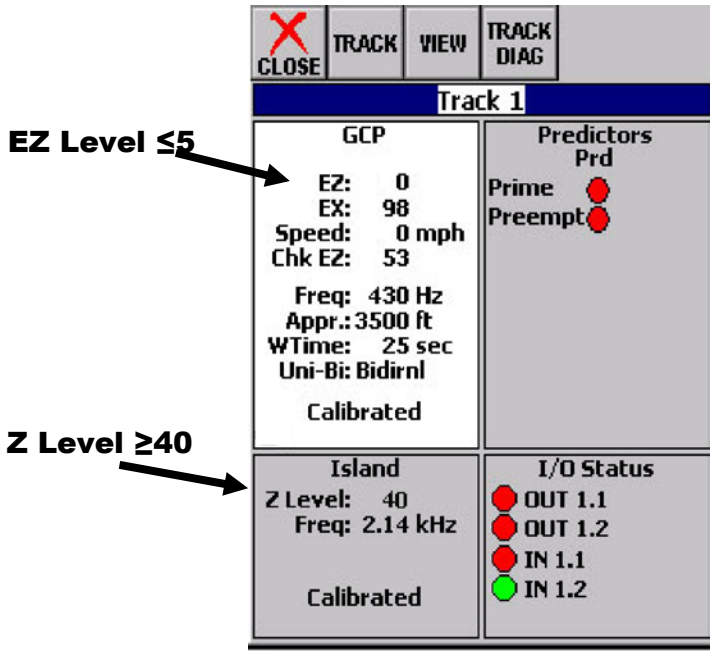

Figure 13 Track View EZ Level and Island Z Level
Step 2	Temporarily install a hardwire shunt beyond the island receiver rail connections at the appropriate distance specified below the Calibration Required message. Shunt distances for island frequencies are provided in the table following the Island Calibration procedure. Ensure EZ value is less than or equal to 5. See Figure 13
Step 3	Select the START button. The START button deactivates (grays out). The display shows an Initiating then an In Progress message during the calibration. If calibration is successful: The Calibration Select Window appears. The ISL CAL button has a green check in the box. Return to TRACK DETAIL VIEW (see Figure 13). Ensure the Island Z value is less than 40. If the value is greater than 40, repeat calibration steps 2 and 3. If the Z value is still greater than 40, REMOVE THE TRACK MODULE FROM SERVICE. If calibration is not successful the display shows a Failed message (see Troubleshooting).